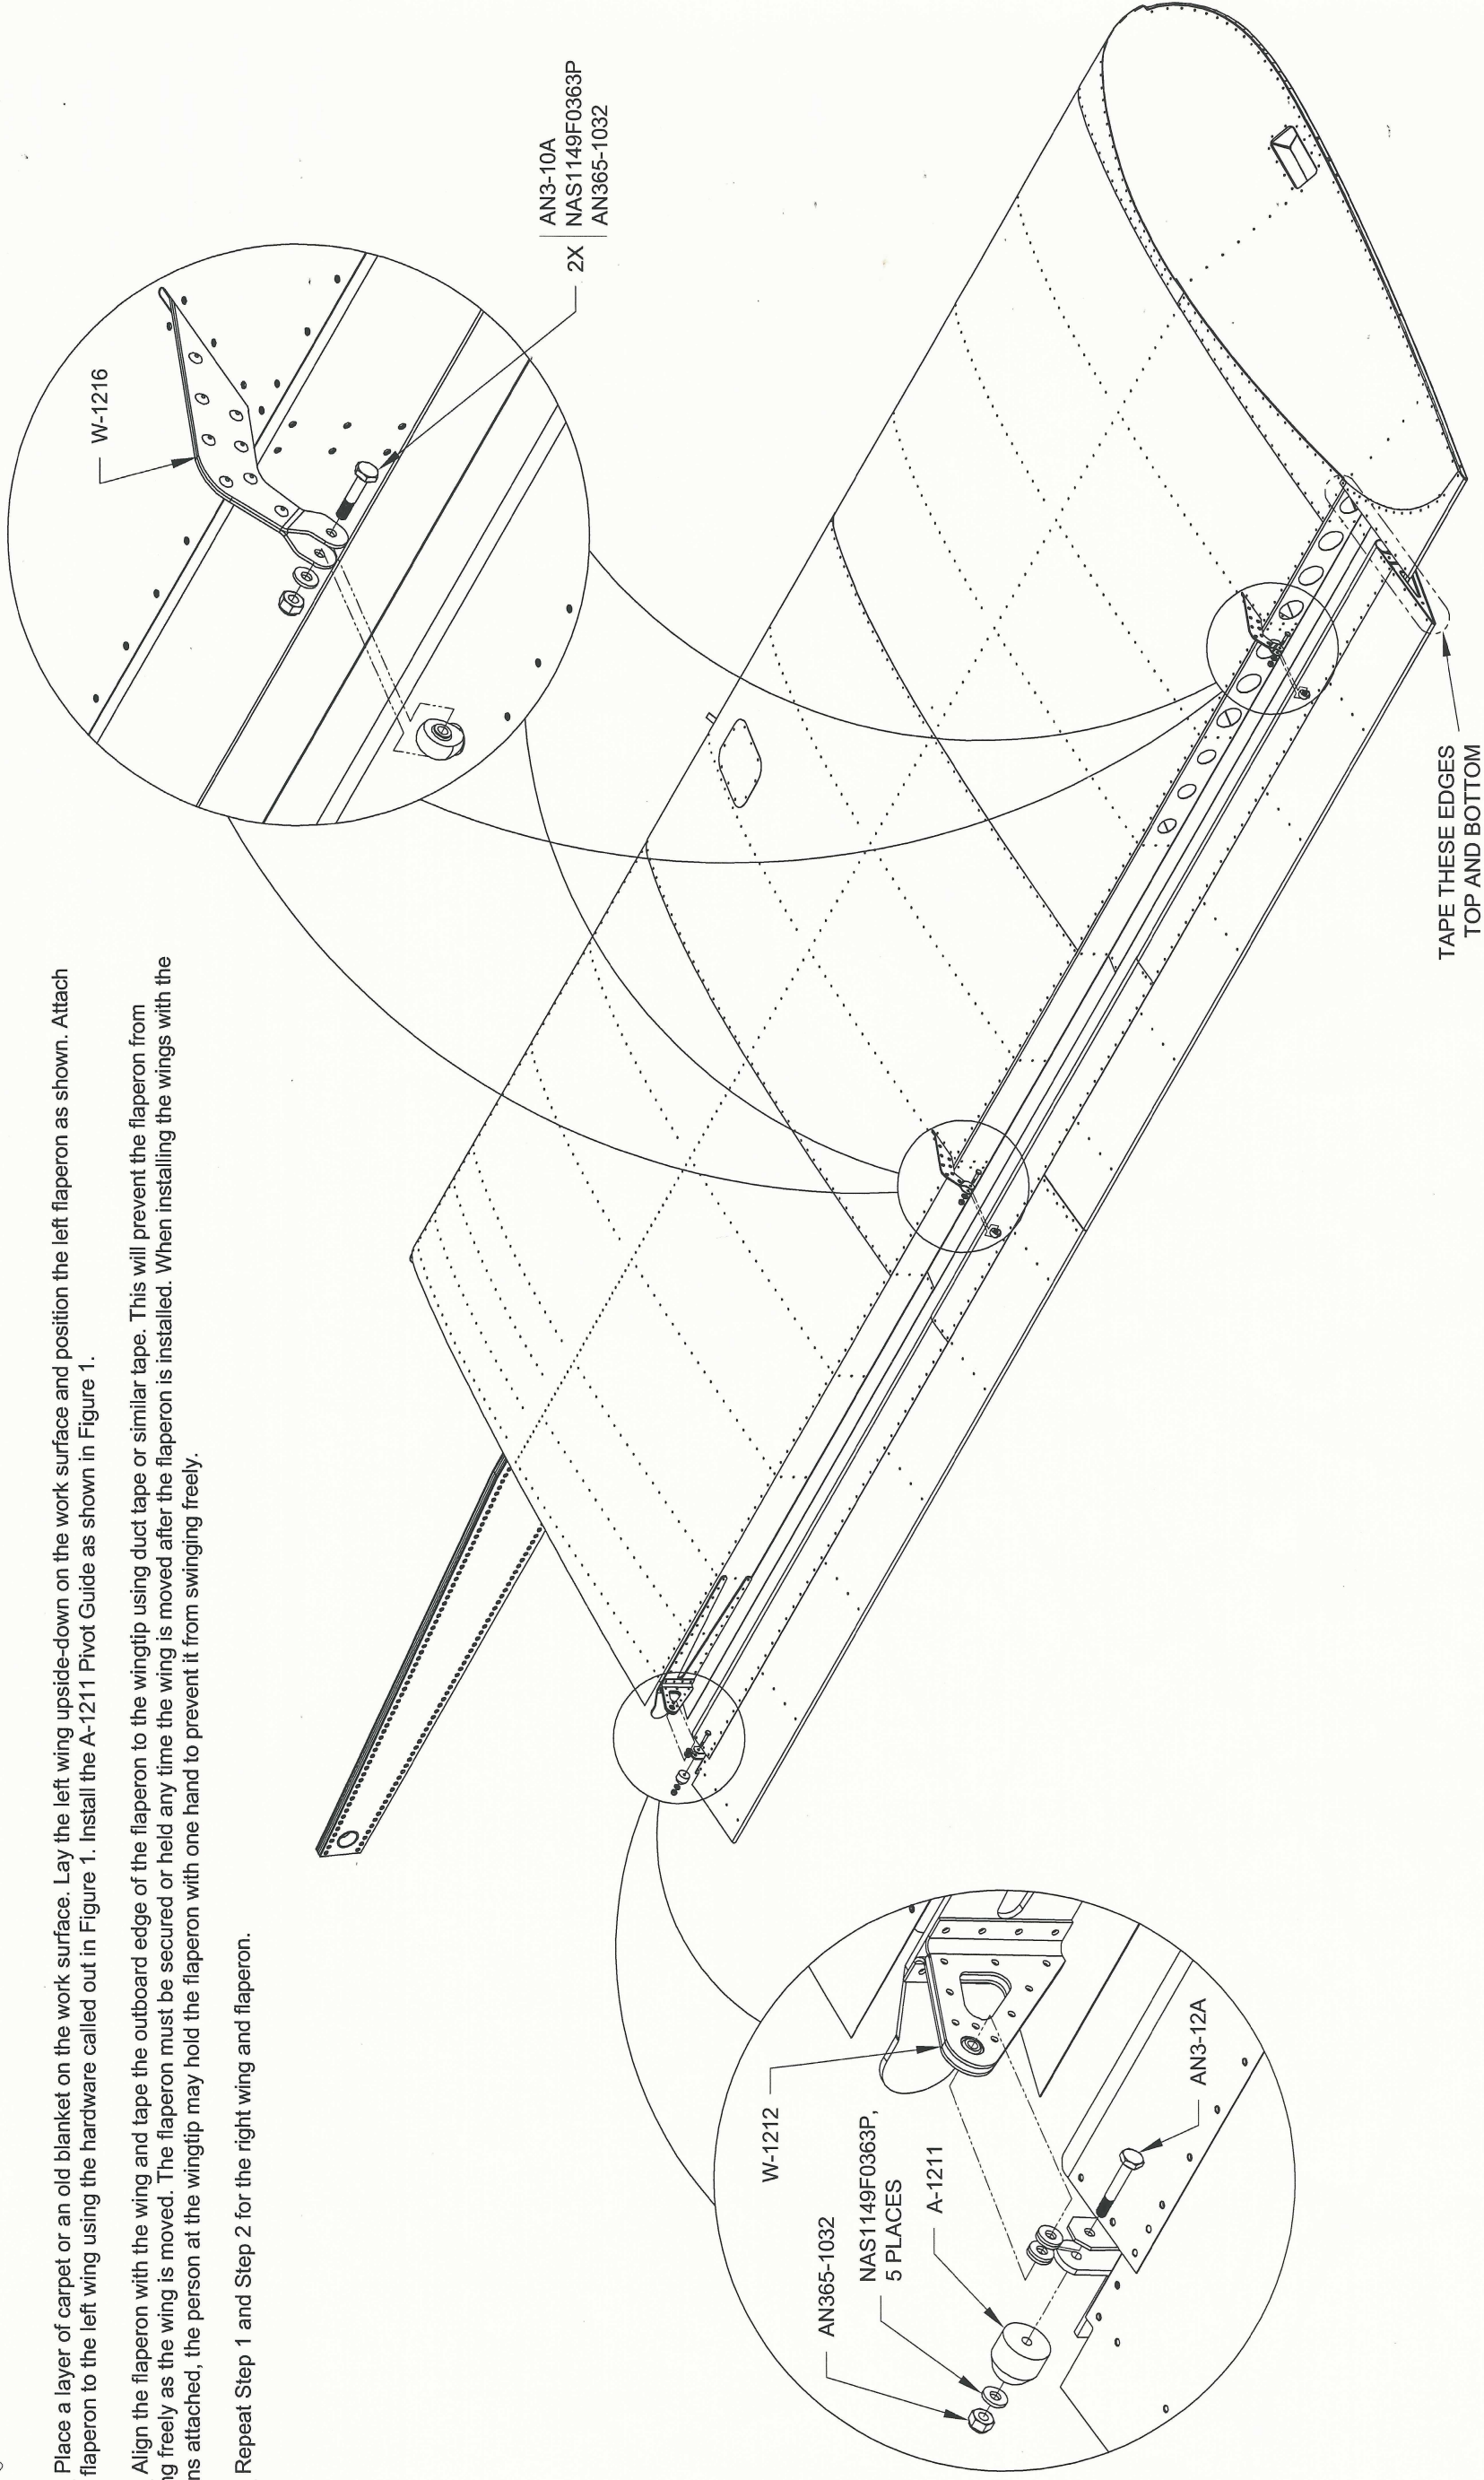

FIGURE 1: FLAPERON INSTALLATION
Step 1: Place a layer of carpet or an old blanket on the work surface. Lay the left wing upside-down on the work surface and position the left flaperon as shown. Attach the left flaperon to the left wing using the hardware called out in Figure 1. Install the A-1211 Pivot Guide as shown in Figure 1.